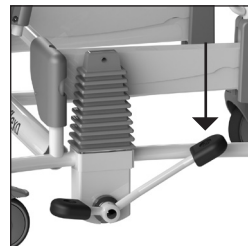

Figure 14 Moving upwards.
- The chair will move upwards if you depress the long part of the foot pedal gently and evenly (See figure 14).